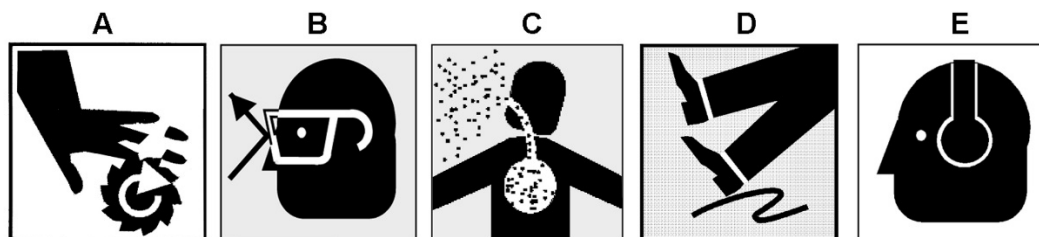

Figure 1-1
6. Always wear protective eye wear when operating, servicing or adjusting machinery. Eyewear shall be impact resistant, protective safety glasses with side shields complying with ANSI Z87.1 specifications. Use of eye wear which does not comply with ANSI Z87.1 specifications could result in severe injury from breakage of eye protection. B, Figure 1-1.
7. When drilling in material which causes dust, a dust mask shall be worn. See C, Figure 1-1.
9. Non-slip footwear and safety shoes are recommended. See D, Figure 1-1.
10. Wear ear protectors (plugs or muffs) during extended periods of operation. See E, Figure 1-1.
Leather safety gloves should be used when handling any sharp objects or cutting tools. See A, Figure 1-1.